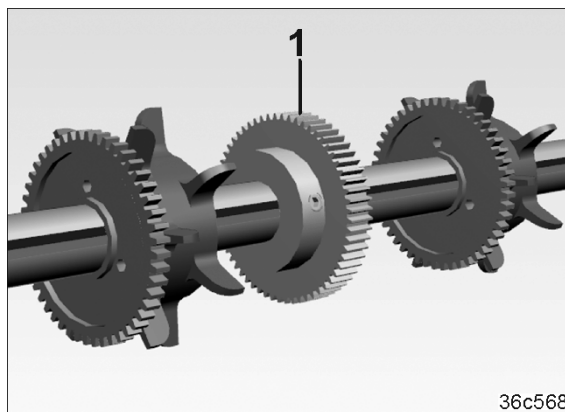

Fig. 252
8. Mount the gear wheel (Fig. 252/1) onto the bean seeding shaft.